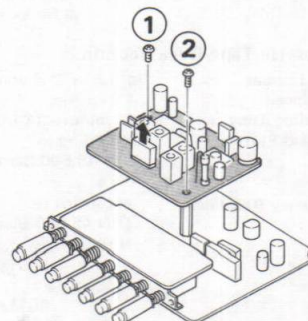

Fig. 6
- 1) Remove connector and 2 screws ((1) and (2)). (Refer to Fig. 6).